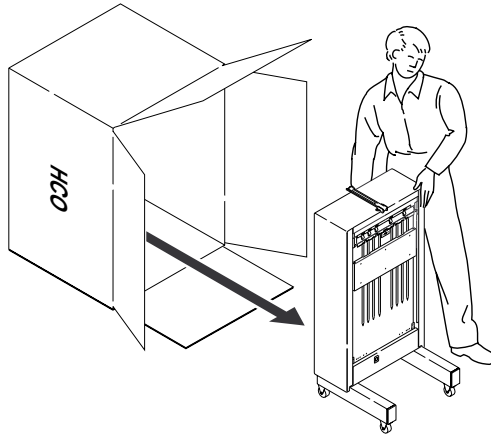

Figure 3 Removing the HCO
Step 4 Grasp the top and bottom of the HCO and roll it slowly out of the box. Make sure the HCO doesn't fall back as you roll it from the box. See Figure 3.